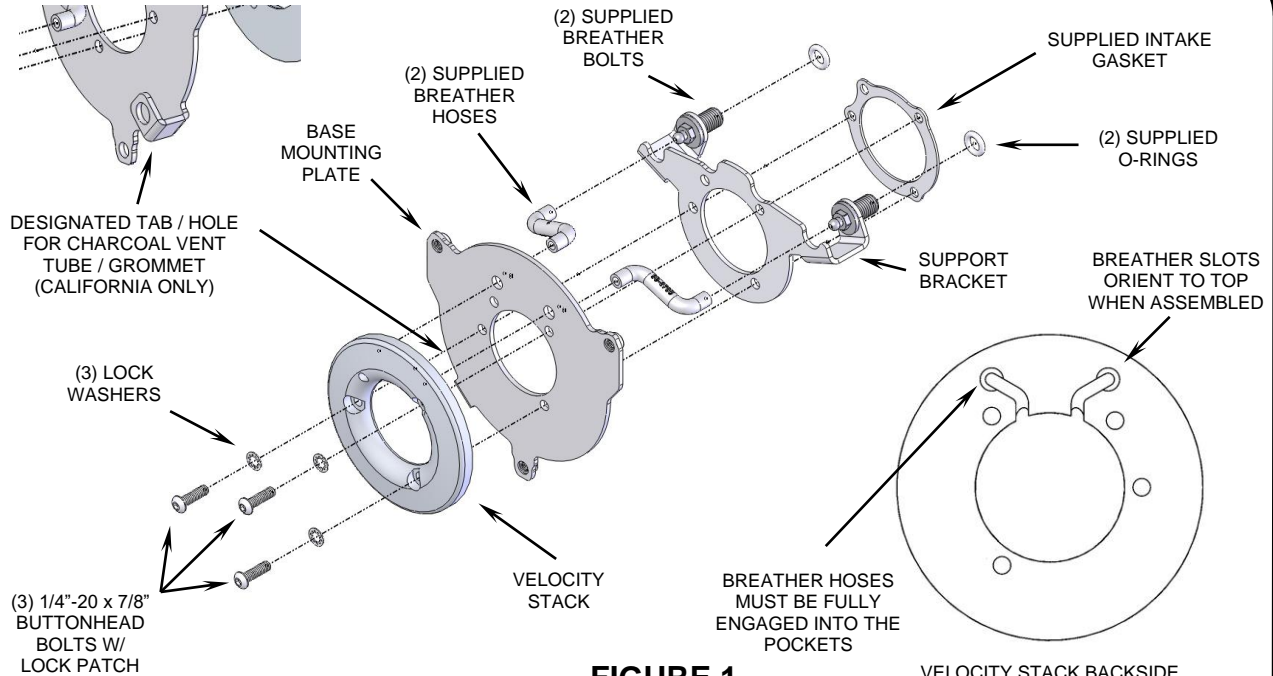

FIGURE 1
3. Insert the (2) supplied breather hoses through the mounting plate and into the velocity stack with the hoses rotated outward, as shown in Figure 1. Make sure the breather hoses are bottomed out in the back of the velocity stack.
NOTE: California models will need to install the vent tube grommet into the designated hole in the mounting plate, see Figure 1.
4. Insert (3) supplied 1/4"-20 x 7/8" buttonhead bolts with lock washers through the mounting holes in the velocity stack and base mounting plate, then position on top of the installed support bracket (Step 2), intake gasket and start threading the buttonhead bolts into the throttle body, but do not tighten. See Figure 1.
5. Snug the (3) buttonhead bolts evenly, and then fully tighten them to the throttle body. Fully tighten the (2) breather bolts from Step 2.